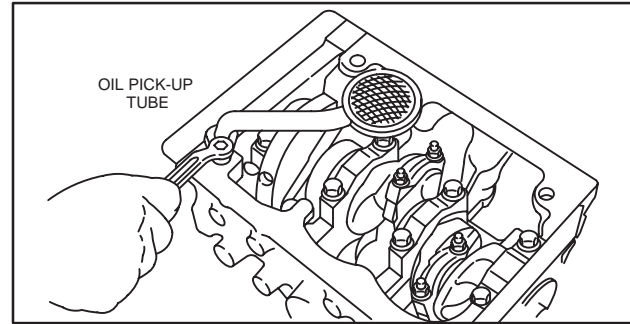

Fig. 5 – Removing Oil Pick-Up
8. Remove oil pick-up tube and strainer, Fig. 5. Discard gasket.